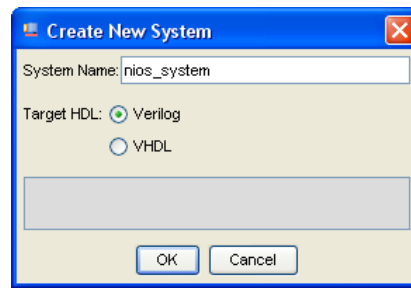
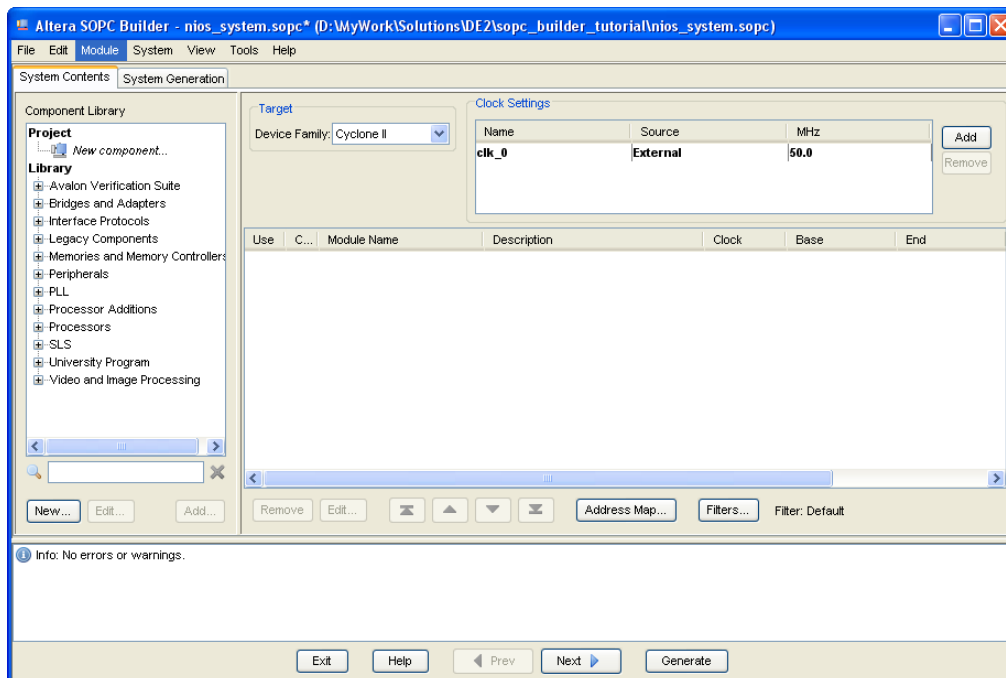
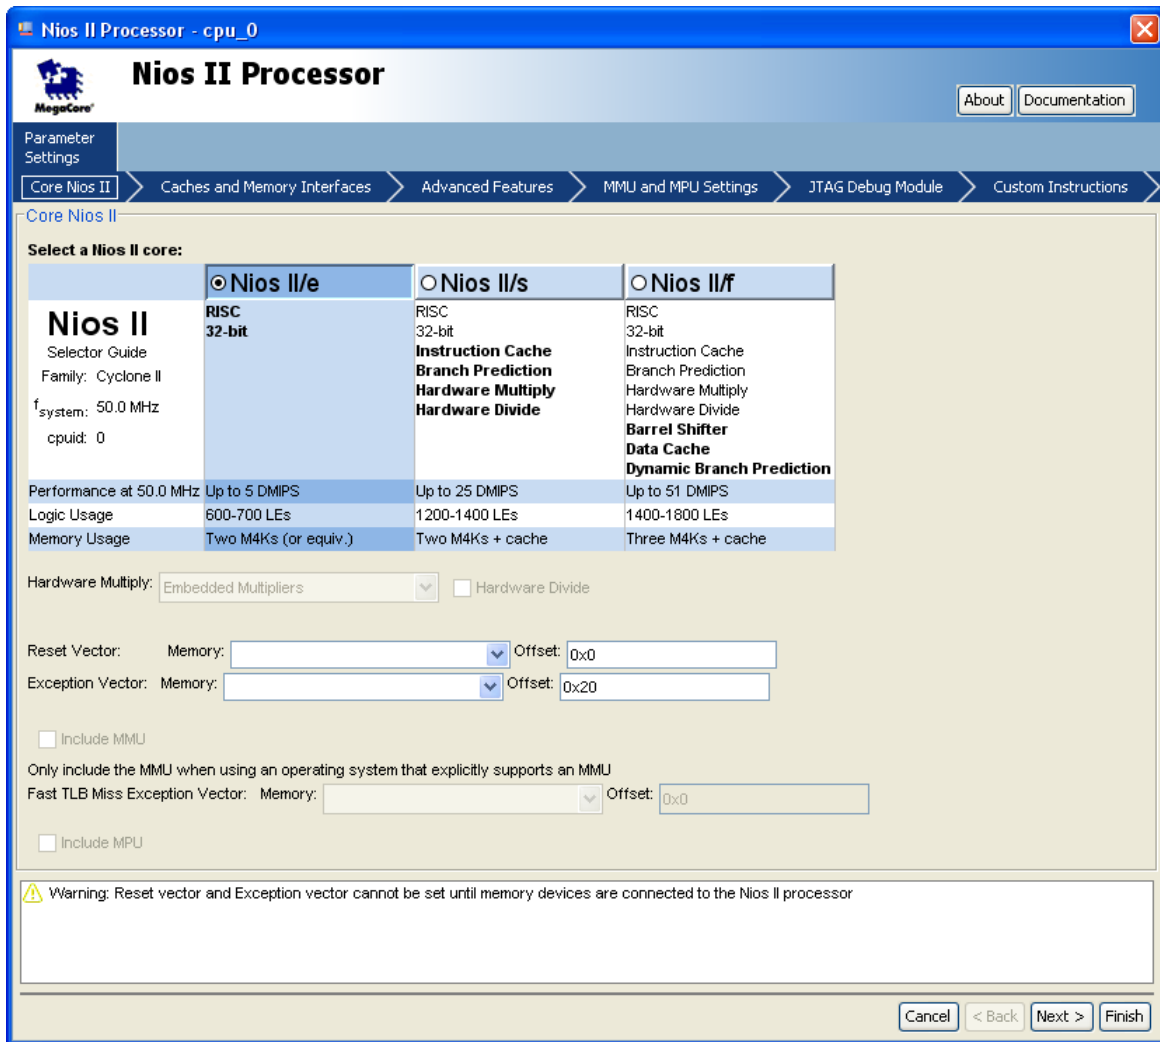
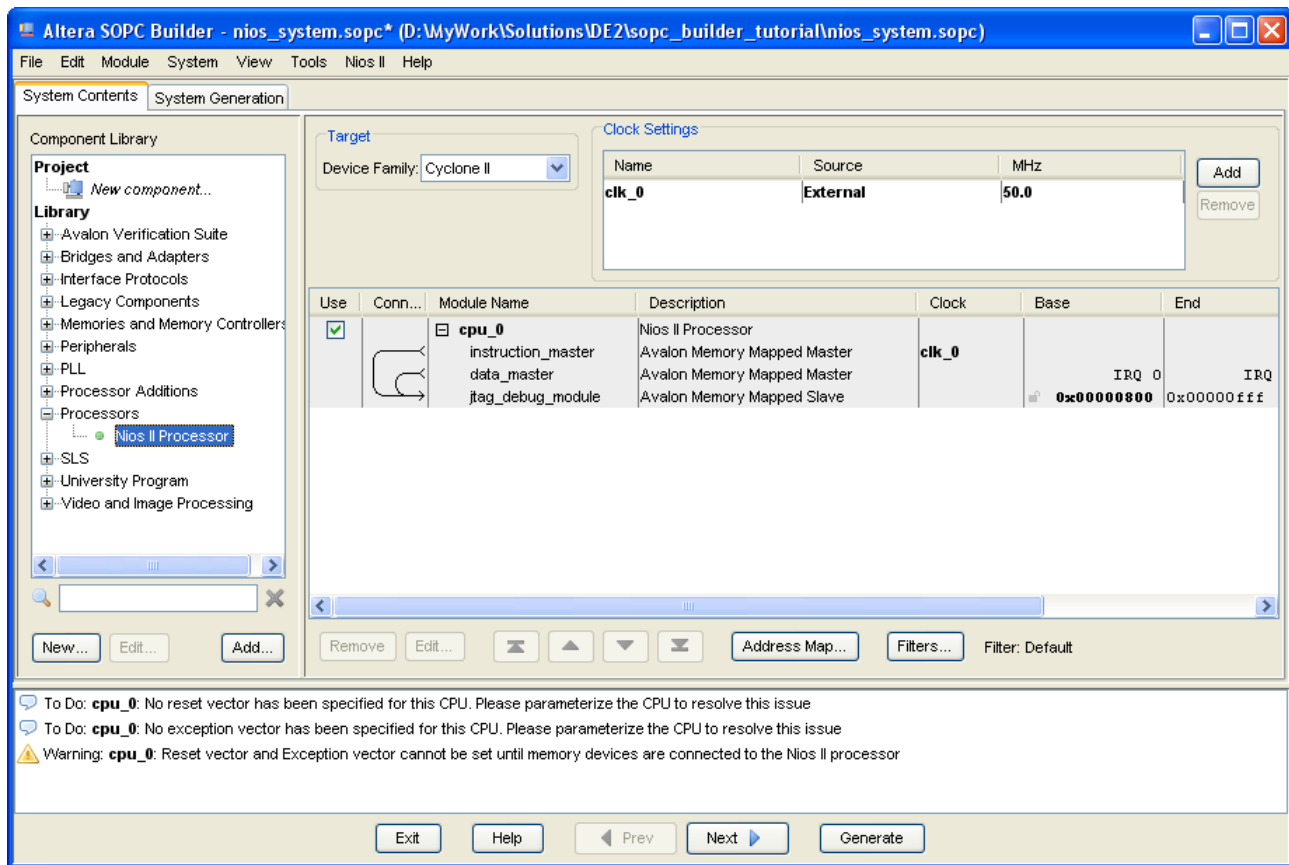

Figure 4. Create a new Nios II system.
Figure 5. The System Contents tab window on a DE-series board.
Figure 6. Create a Nios II processor.
Figure 7. The defined processor on a DE-series board.
2. Select Tools > SOPC Builder, which leads to the pop-up box in Figure 4. Enter *nios\_system* as the system name; this will be the name of the system that the SOPC Builder will generate. Choose Verilog as the target HDL, in which the system module will be specified. Click OK to reach the window in Figure 5.
- Figure 5 displays the System Contents tab of the SOPC Builder, which is used to add components to the system and configure the selected components to meet the design requirements. The available components are listed on the left side of the window. Before choosing our components, examine the area in the figure labeled **Target**. Check the setting for the **Device Family** and ensure that the correct family is selected for the DE-series board. Table 1 lists the device families associated with DE-series boards.
- The Nios II processor runs under the control of a clock. For this tutorial we will make use of the 50-MHz clock that is provided on the DE-series board. As shown in Figure 5, it is possible to specify the names and frequency of clock signals in the SOPC Builder display. If not already included in this list, specify a clock named *clk\_0* with the source designated as **External** and the frequency set to 50.0 MHz.
- On the left side of the window in Figure 5 select Nios II Processor and click Add, which leads to the window in Figure 6.
- Choose Nios II/e which is the simplest version of the processor. Click Finish to return to the window in Figure 5, which now shows the Nios II processor specified as indicated in Figure 7. There may be some warnings or error messages displayed in the SOPC Builder Messages window (at the bottom of the screen), because some parameters have not yet been specified. Ignore these messages as we will provide the necessary data later.